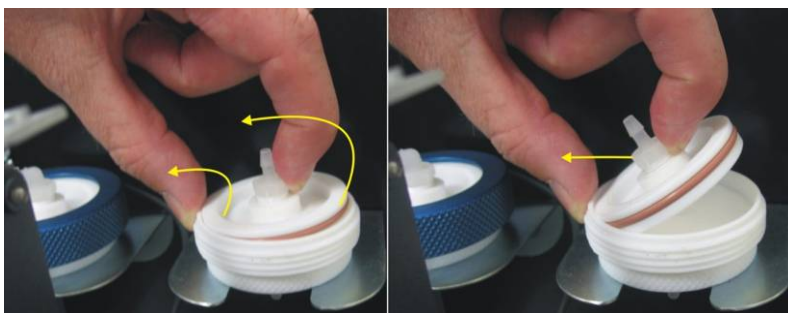

Figure 53 – Removing the Plunger
3. Remove the filter plunger from the casing, place finger on tubing connector and pull to the side (refer to Figure 53).